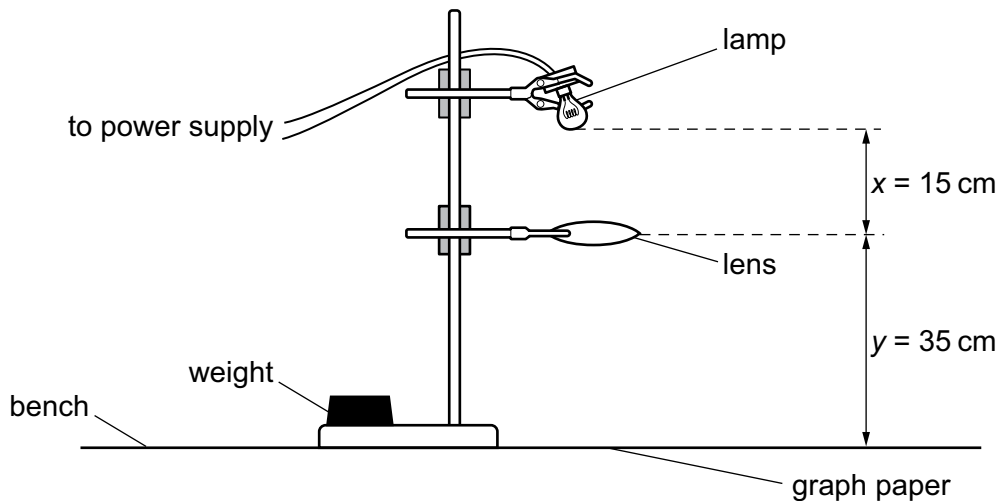

Fig. 2.1
- 1 The lamp should be a small torch lamp of approximate diameter 1 cm, 2.5 V, 250 mA, filament indicator lamp, clear, e.g. RS 106-313. It must be placed in a small holder, e.g. RS 171-2603 so that it can be held by the clamp. The clamp should be fastened to the stand so that the lamp is a distance of approximately 50 cm above the bench, as shown in Fig. 2.1. The distance  $y$  between the bench and the centre of the lens must be 35 cm. The lamp must be connected to a suitable power supply. The apparatus should be set up in a darkened part of the laboratory.
The supervisor must ensure that a plain sheet of graph paper, with no markings or measurements from previous candidates, is placed on the bench underneath the lamp for the next candidate. The supervisor must also ensure that the distances  $x$  and  $y$  are as shown in Fig. 2.1.